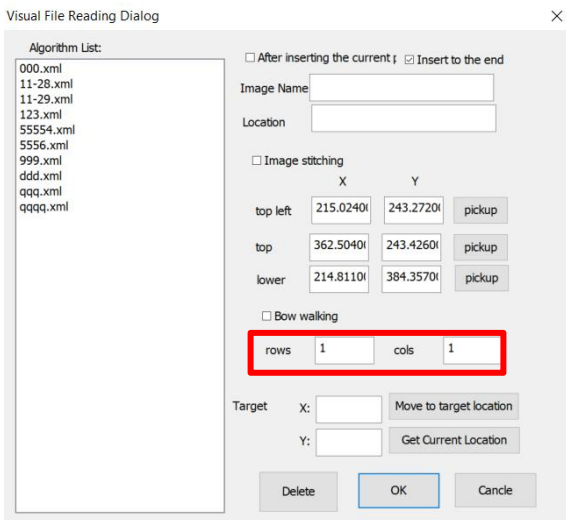

Figure 2-10
Step 5: Set the number of rows and columns of the target. As in Figure 2-10.